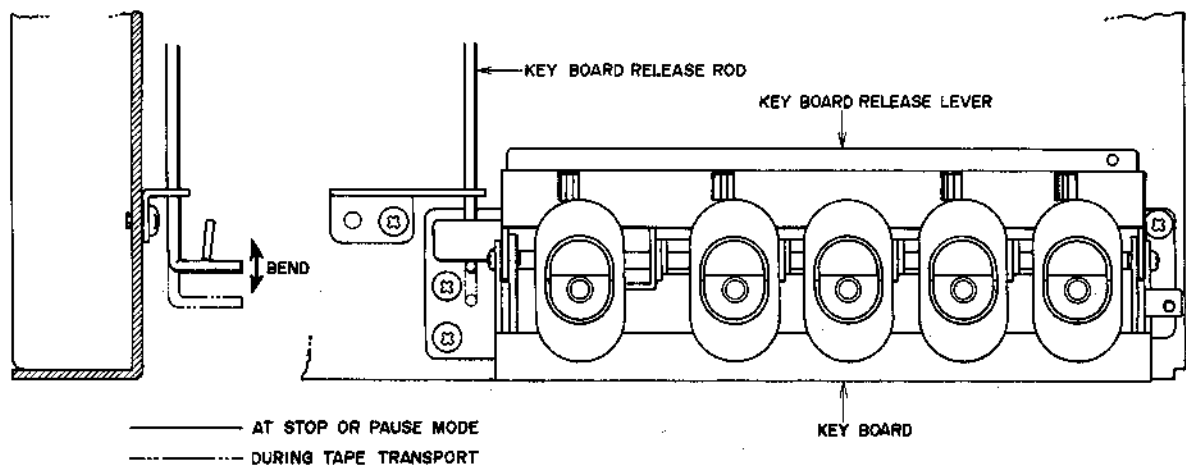

Fig. 17
**9. KEYBOARD RELEASE ROD ADJUSTMENT** (Refer to Fig. 17)